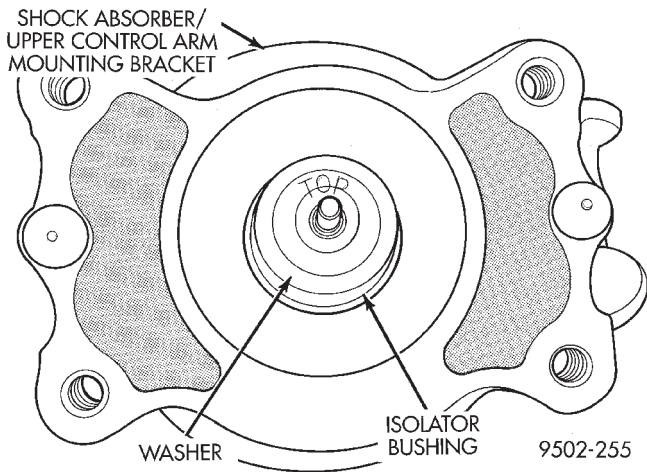

Fig. 88 Shock Absorber Rod Washer
(5) Remove the washer (Fig. 88) from the shock absorber rod.
(10) Install the upper washer on rod of shock absorber and position it over top bushing with the word TOP facing up (Fig. 88).